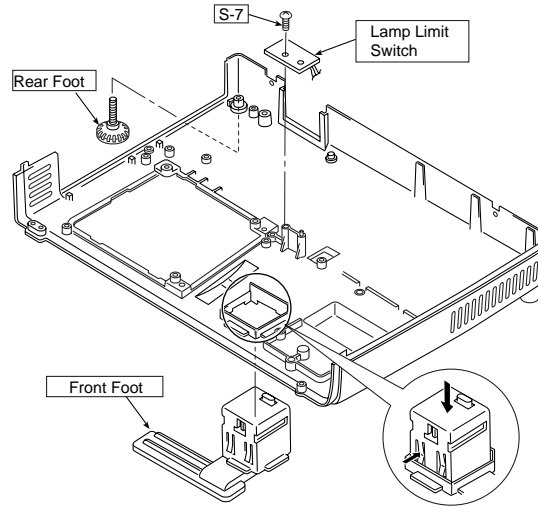

Fig. 17
16) Front and rear feet (See Fig. 17.)
As shown in Fig. 17, press the hook (1) first and then the hook (2). Remove the front feet. Turn the rear feet away out of place. Remove the screw (S-7) shown in Fig. 17, and detach the lamp limit switch.